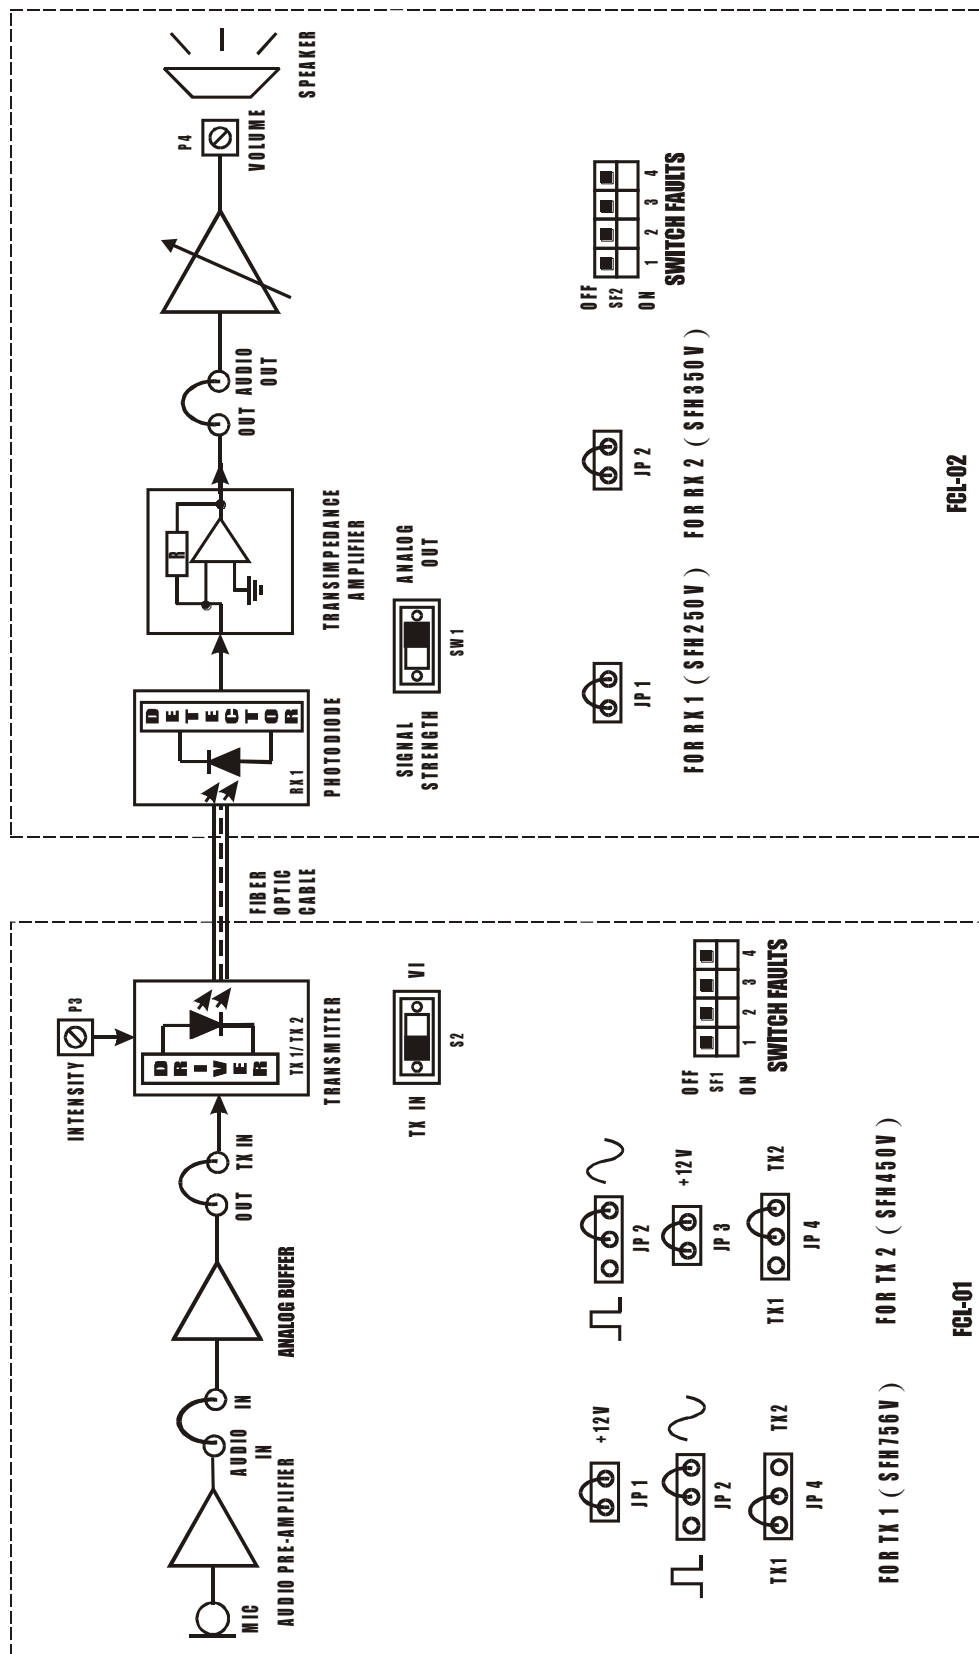

FIG. 15.1 BLOCK DIAGRAM FOR SETTING UP FIBER OPTIC VOICE LINK
- Make connections as shown in fig.15.1. Connect the power supply cables with proper polarity to FCL-01 & FCL-02 Kits. While connecting this, ensure that the power supply is OFF.
- Keep the jumpers **JP1, JP2, JP3 & JP4** on FCL-01 as shown in fig.15.1.
- Keep the jumpers **JP1 & JP2** on FCL-02 as shown in fig.15.1.